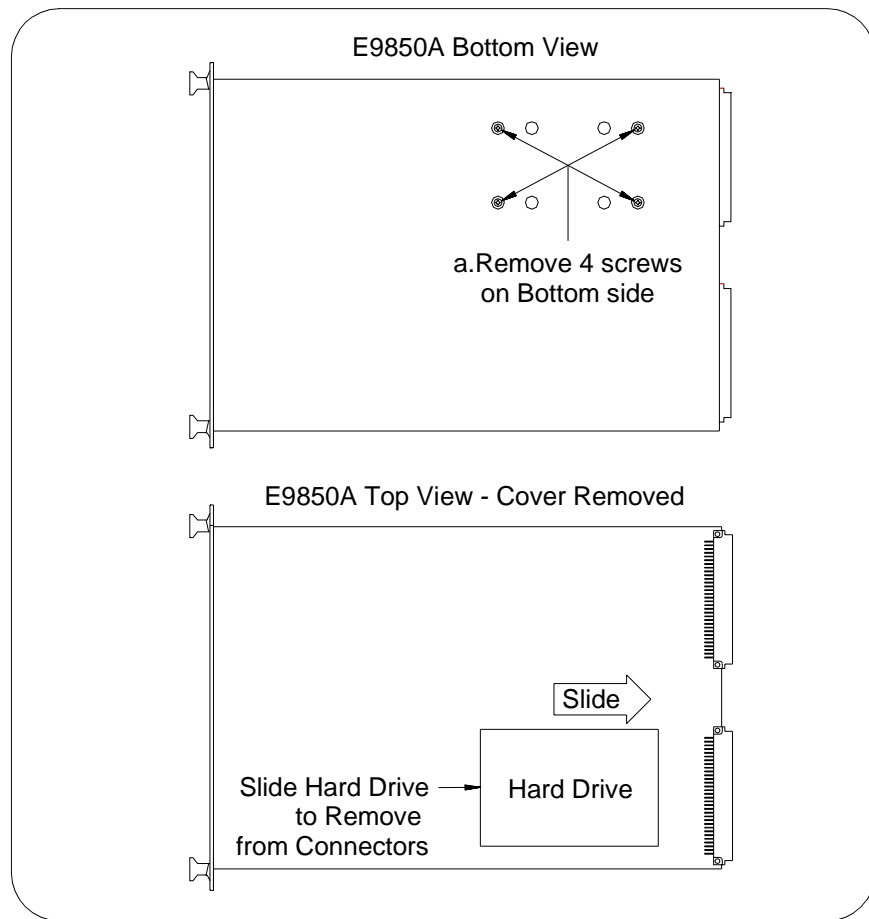

Figure 6-3. Removing the Hard Drive
3. Remove the hard drive from the E9850A (see Figure 6-3).